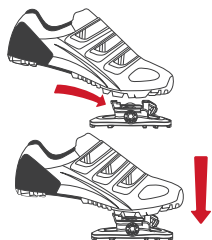

Figure 4. Push forward and down to engage
2. Practice entry and exit before your first ride (see Figures 4 and 5).
- To enter the pedals, engage the front of the cleat into the front of the pedal (Figure 4) and press down with the ball of your foot. You should hear an audible click telling you that the pedal has engaged the cleat.